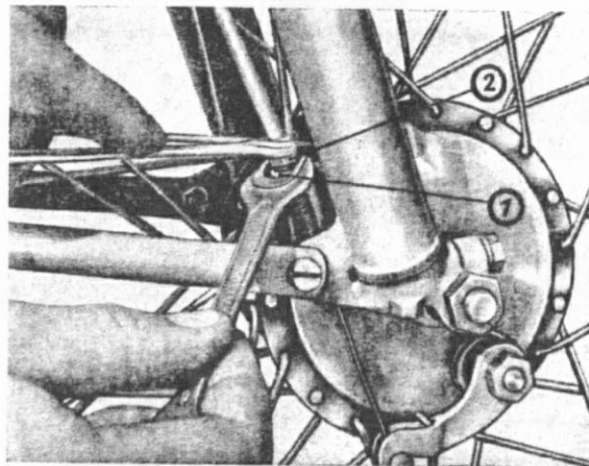

Fig. 26: Adjustment of front wheel brake
1. Loosen the check nut (Fig. 26, No. 1) of the brake adjusting sleeve near the brake back plate.
2. Go on unscrewing brake adjusting sleeve (Fig. 26, No. 2) until brake has correct grip. If the adjusting sleeve has been unscrewed too far so that the brake catches, it should be screwed up a little again.